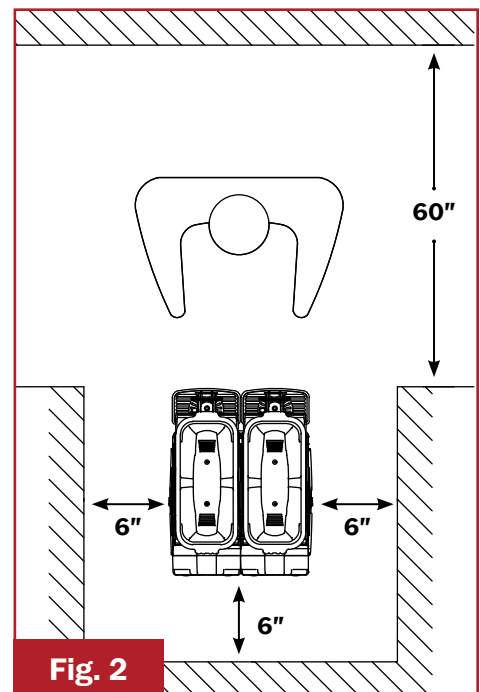

Fig. 2
2. For improved ventilation, maintain a distance of 6" between the unit and walls or other obstacles. Increase the distance if the unit is placed near a heating source (Fig. 2).
3. Leave 60" of free space in front of the machine to allow for easy use and maintenance (Fig. 2).
4. Leave 10" of free space above the machine to allow for removal of lids (Fig. 2).
Lack of air flow	Increase the distance between the machine and other obstacles/heating sources (see Fig. 2)